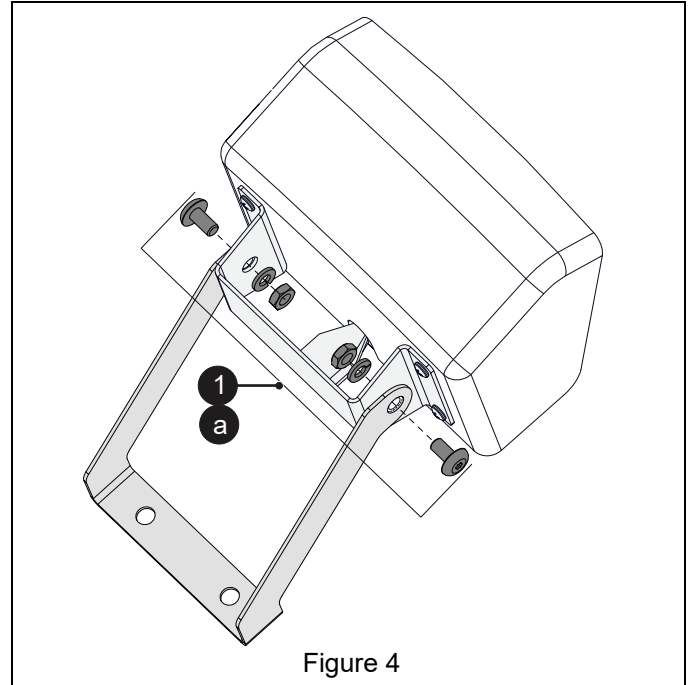

Figure 4
1. Install two plastic pivot bushings (item 21) into control mount bracket (item 3). See Figure 4.
2. Locate four #8 x 3/8" pan head machine screws and stainless steel hat bracket (item 1a) in the controller kit (item 1). Position the controller cover (item 2) and hat bracket (item 1a) on the controller (item 1b) and secure with four pan head screws (item 1a). See Figure 4.